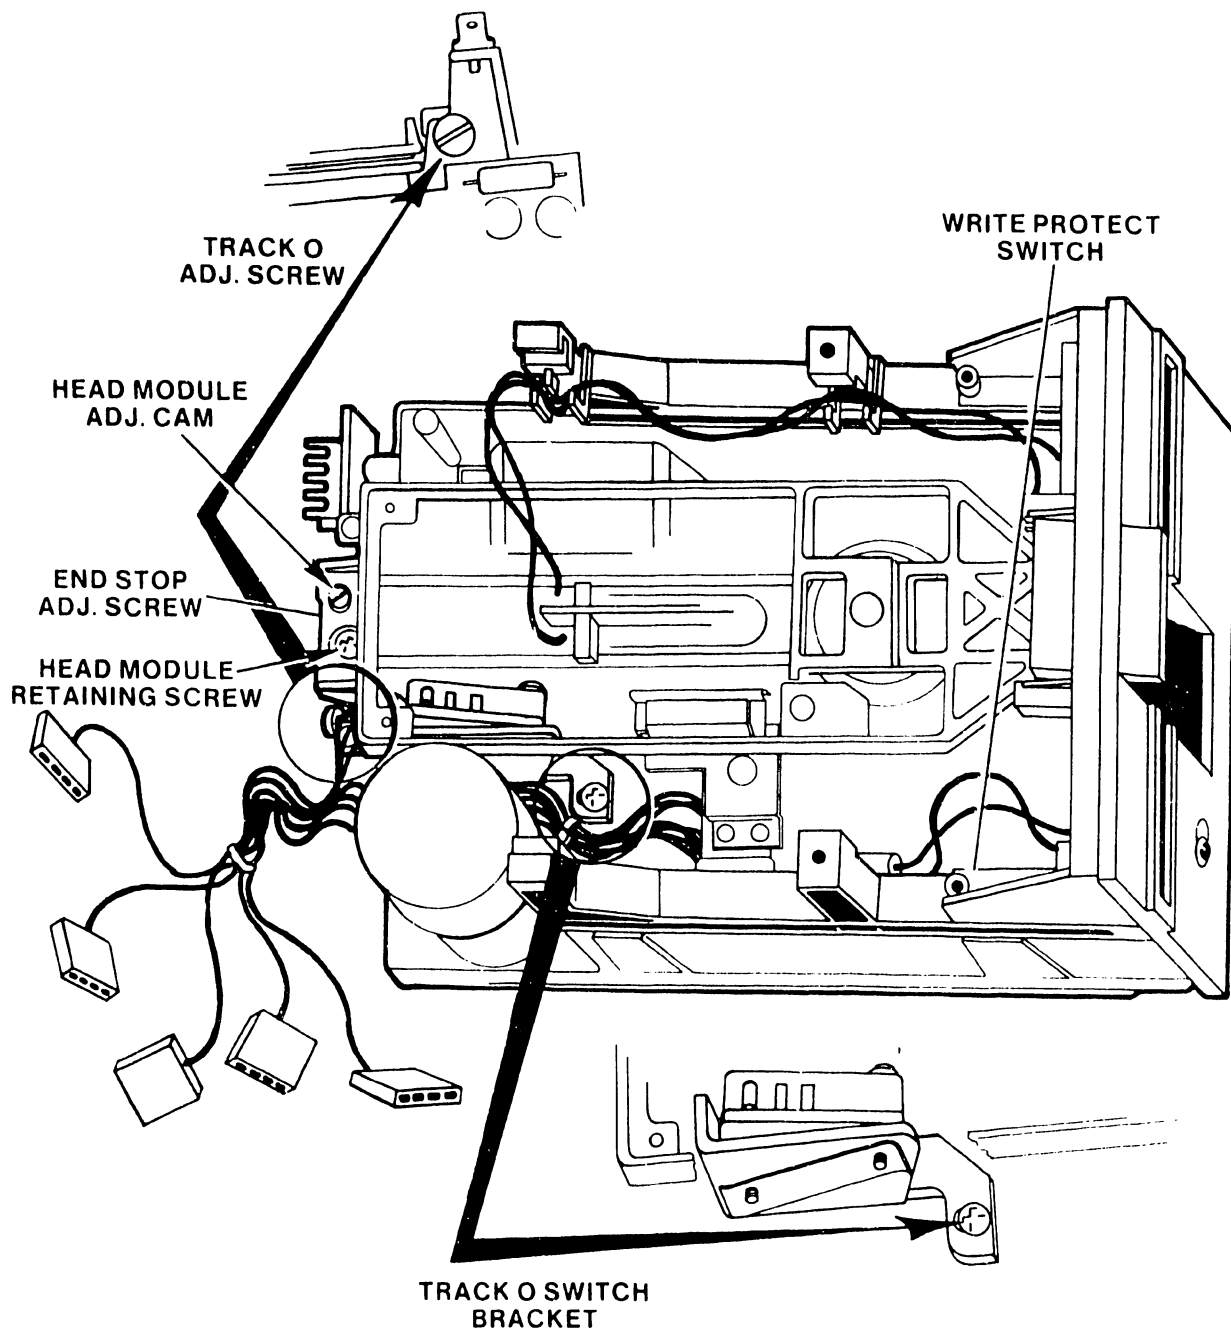

FIGURE 5-29 TRACK 00 ADJUST (TANDON DISK DRIVE)
Tandon: Loosen (do not remove) the two module retaining screws (Figure 5-28) on the bottom of the chassis, and the one at the top rear of the module (Figure 5-29) Manually rotate the cam at the rear of the module to adjust the pattern. Finish by tightening the three retaining screws.
2. Loosen retaining screw on the base of the track 00 bracket (Figure 5-29); retighten slightly to provide some friction on the bracket. Turn track 00 adjustment screw CCW to maximum.
4. To adjust switch (Figure 5-29) Loosen retaining screw, remove switch assembly, and set switch either higher or lower as required.